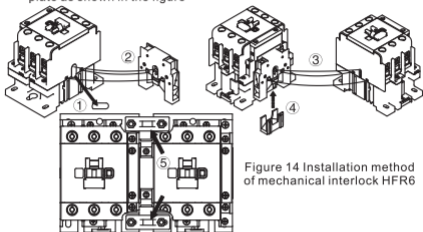

Figure 14 Installation method of mechanical interlock HFR6
(3) The installation method of HFR6 mechanical interlock is shown in Figure 14. Only steps ① to ④ are required for HDC3-09 ~ 38A and the fixed connecting plate shall also be installed for HDC3-40 ~ 95A:
- ① Remove the dustproof film
- ② Install HFR6
- ③ Install another contactor as shown in the figure
- ④ Install the fixed module as shown in the figure
- ⑤ Fix two contactors with the fastening screws & nut and connecting plate as shown in the figure